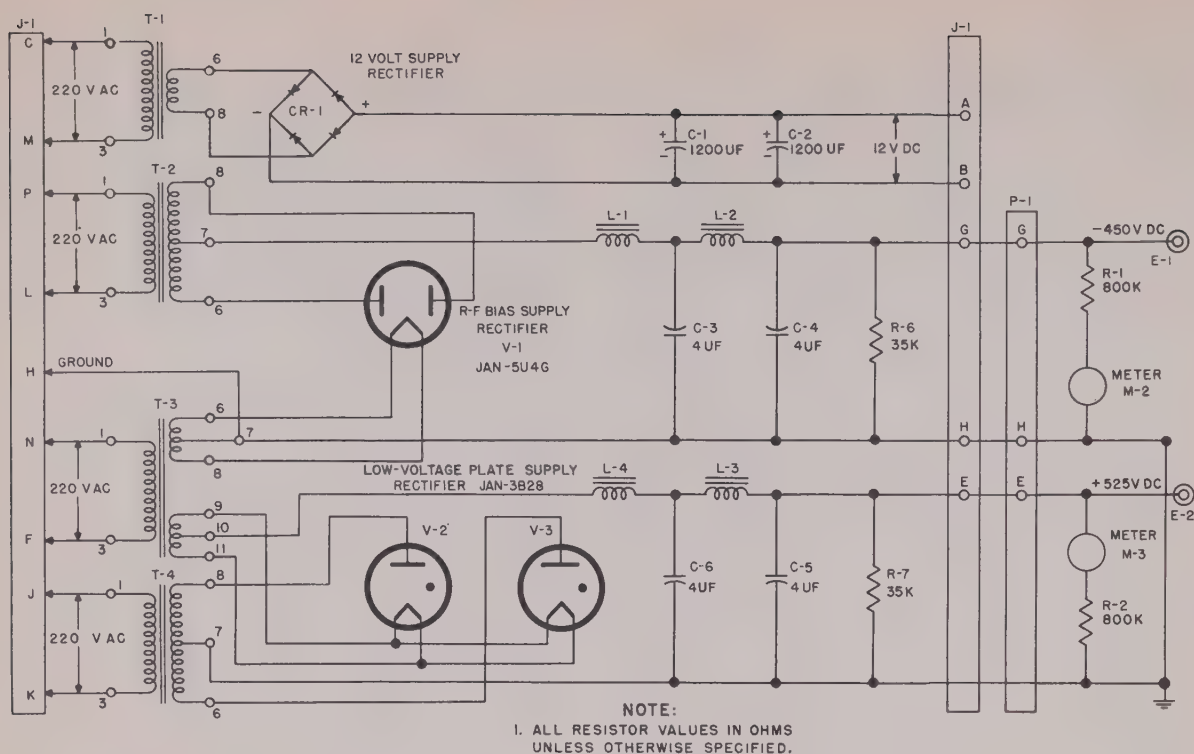

Figure 49. Rectifier Power Unit Model 36D, simplified schematic diagram of low-voltage rectifier assembly
b. 12-Volt Supply Rectifier (fig. 49). The 12-volt rectifier, CR-1, is a full-wave, bridge-type, magnesium-copper-sulphide, dry-metallic rectifier. The dry rectifier operates on the principle that when an oxide film is present, it has a high resistance to current flow in one direction and a very low resistance to current flow in the opposite direction. Thus, the net current over each complete cycle flows only in one direction and rectification occurs. Rectifier CR-1 is composed of four units connected in
a bridge-type circuit as shown in figure 49. Note that the electron flow is in the direction to which the arrowheads point. Transformer T-1 reduces the 220 volts ac in the primary to approximately 16 volts ac in the secondary. This secondary voltage is applied across rectifier CR-1, and the rectified d-c power is developed across another set of terminals of CR-1. These connections are shown clearly in figure 49. The output is nominally 12 volts dc at 4 amperes. Capacitors C-1 and C-2 are very large and are used for filtering the output of the rectifier.
c. Low-Voltage Plate Supply Rectifier (fig. 49). The low-voltage plate supply rectifier consists of two rectifier Tubes JAN-3B28, V-2 and V-3, with their plates connected across the secondary of transformer T-4 for full-wave rectification. The filaments of the tubes are connected in parallel across a secondary winding of transformer T-3. The secondary of T-4 is center-tapped and connected at this point
d. R-F Bias Supply Rectifier (fig. 49). The r-f bias supply rectifier consists of a high-vacuum tube V-1, Tube JAN-5U4G, whose plates are connected across the secondary of plate supply transformer T-2 for full-wave rectification. The filament of V-1 is con-